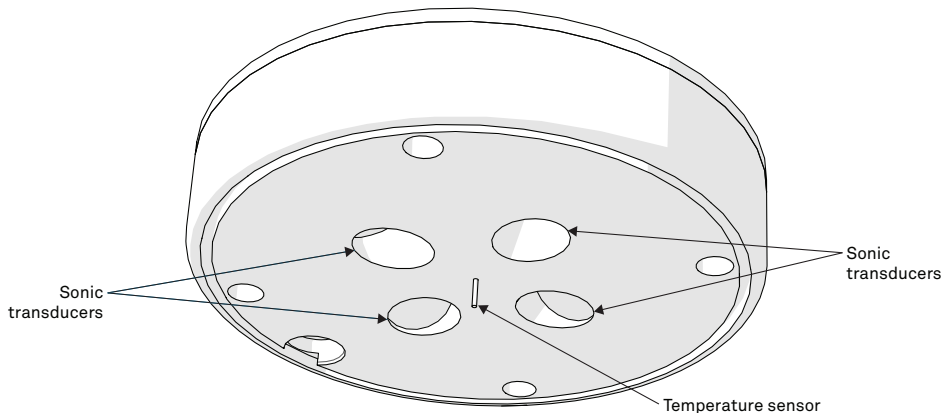

Figure 6 Temperature needle and sonic transducers
1. Make sure nothing is obscuring the temperature sensor or the sonic transducers shown in Figure 6 (cobwebs, leaves, wasp nests, etc.).
- **DO NOT** touch the temperature sensor needle (Figure 6).
- Avoid more than light pressure on the sonic transducers (Figure 6).
NOTE: Do not allow water to enter the sonic transducers (Figure 6). Water may corrode the metal parts inside and ruin the transducers.